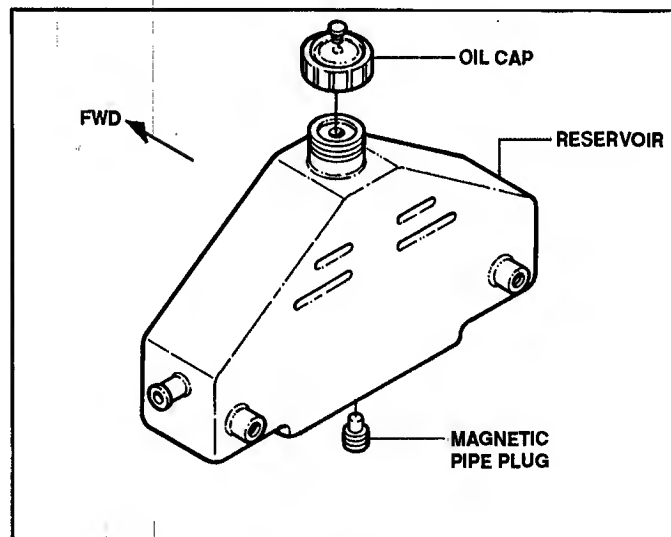

FIGURE 9.4
3. Clean and replace pipe plug. Tighten securely. See Figure 9.4.
3. Fill reservoir with fluid (approximately 7 U.S. quarts for reservoir shown in Figure 9.4).